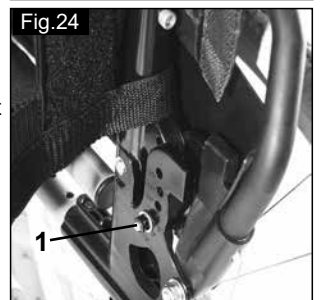

Fig.24
The angle of the backrest can be set to 6 different positions (-5° forwards, 0°, 5°, 10°, 15° and 20° backwards). To adjust the angle, remove the screw (1), set the desired angle and then re-tighten the screw (Fig. 24).